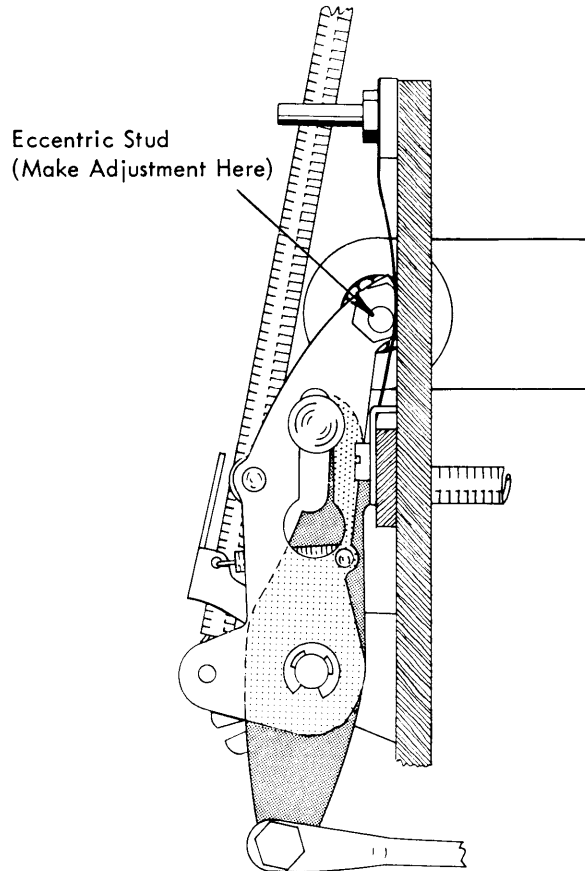
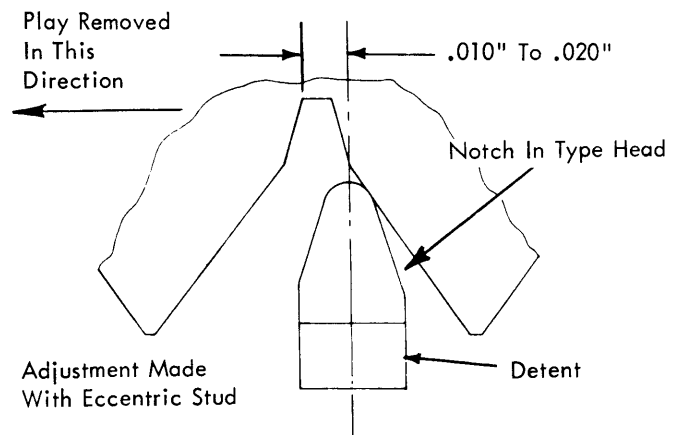

FIGURE 62. Eccentric Stud
FIGURE 63. Eccentric Stud
- c. Half-cycle an upper case "M" (-5) and adjust the eccentric stud (Fig. 62) in against the machine side-frame until the "M" detents .010" to .020" in the negative direction from the center of the detent notch when the head play is lightly removed in the negative direction (Fig. 63). Make sure that the damper spring is fully collapsed against the machine sideframe.